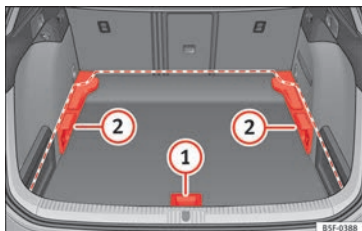
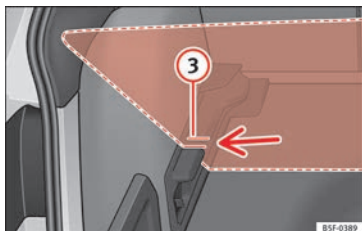

Fig. 181 Luggage compartment variable floor: positions.
Fig. 182 Luggage compartment variable floor: grooves tilted.
- Lift the floor using handle »» **Fig. 181 ①** and pull it back until the front of the floor has fully passed the supports **②**.
- Move the floor forward over the supports as far as the rear seat backrest and then lower the floor with the handle **①**.
- Now match the front part with the lower grooves of the supports and slide the floor forwards as far as the rear seat backrest and lower the floor at the same time with the handle **①**.
- Lift the variable floor using handle »» **Fig. 181 ①** and pull it back until the front of the floor has fully passed the tilted grooves »» **Fig. 182 ③**.
- Run the floor through these grooves with the help of handle **①** as the rear seat backrest and until the floor is resting in the grooves.